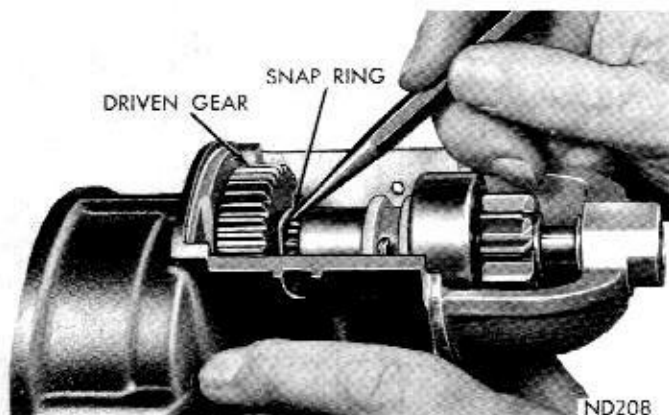

Fig. 6—Removing the Driven Gear Snap Ring
(15) Release retainer clip that positions driven gear on pinion shaft (Fig. 6).